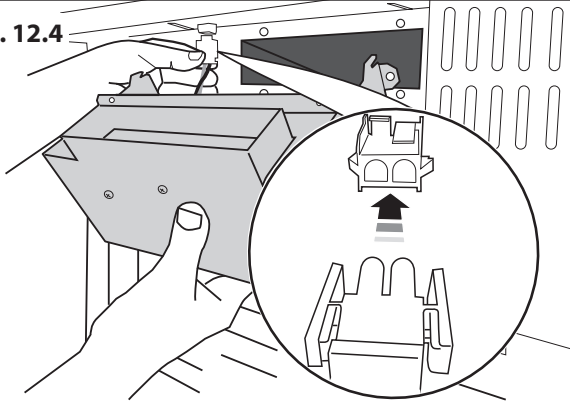

Fig. 12.5
3. The cooling fan has two tabs which connects to the slots underneath the flue vent. Gently align the cooling fan box tabs to the slots underneath the flue vent **Fig. 12.5**.